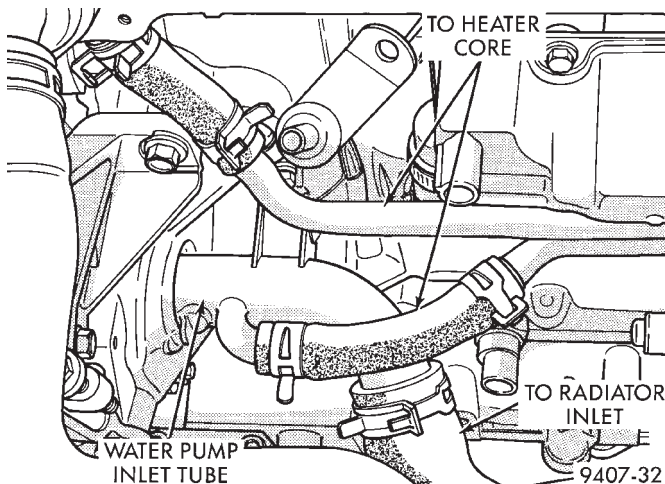
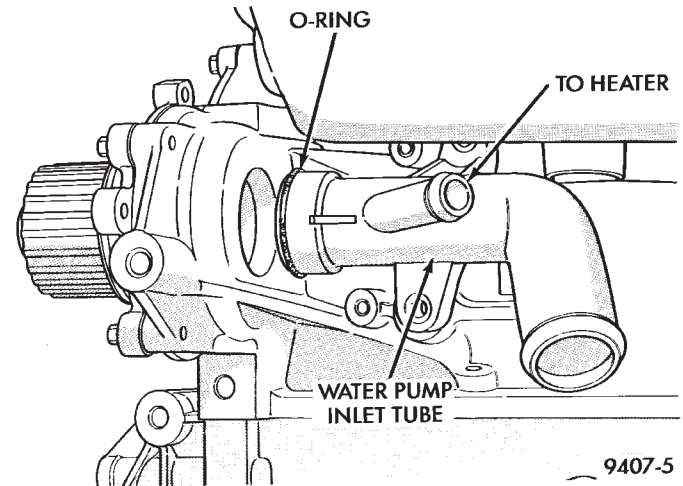

Fig. 35 Water Pump Inlet Tube Hose Connections
Fig. 36 Water Pump Inlet Tube—Service
(1) Drain cooling system. Refer to procedure in this section.
(2) Remove upper radiator hose to access the hose connections at the inlet tube.
(3) Remove lower radiator hose and heater hose from the inlet tube (Fig. 35).
(4) Remove the 2 fasteners from that hold the inlet tube to the block.
(5) Rotate inlet tube while removing from the engine block (Fig. 36).
(1) Inspect the O-ring for damage before installing the tube into the cylinder block (Fig. 36).
(2) Lube O-ring with coolant and install into the cylinder block opening.
(3) Install 2 fasteners and tighten to 12 N·m (105 in. lbs.).
(4) Connect lower radiator hose and heater hose to inlet tube (Fig. 35).
(5) Install upper radiator hose.
(6) Fill cooling system. Refer to procedure in this section.